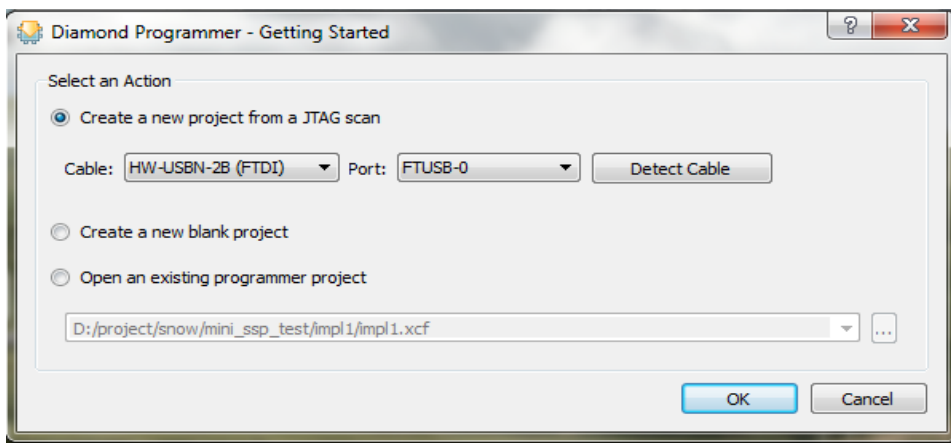

Figure 4.1. Programming Cable Setup
4. In the Getting Started dialog box, select the configurations shown in Figure 4.1. Click **OK**.